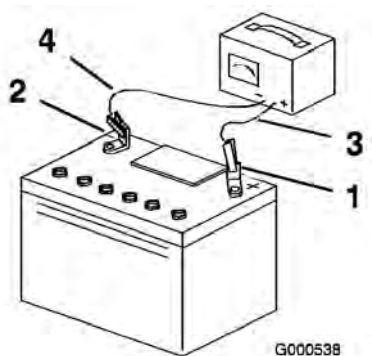

Figure 42
4. When the battery is fully charged, unplug the charger from the electrical outlet, then disconnect the charger leads from the battery posts (Figure 42).